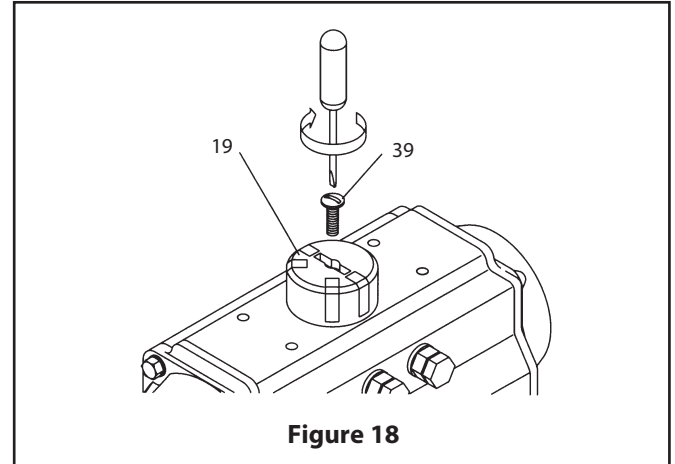
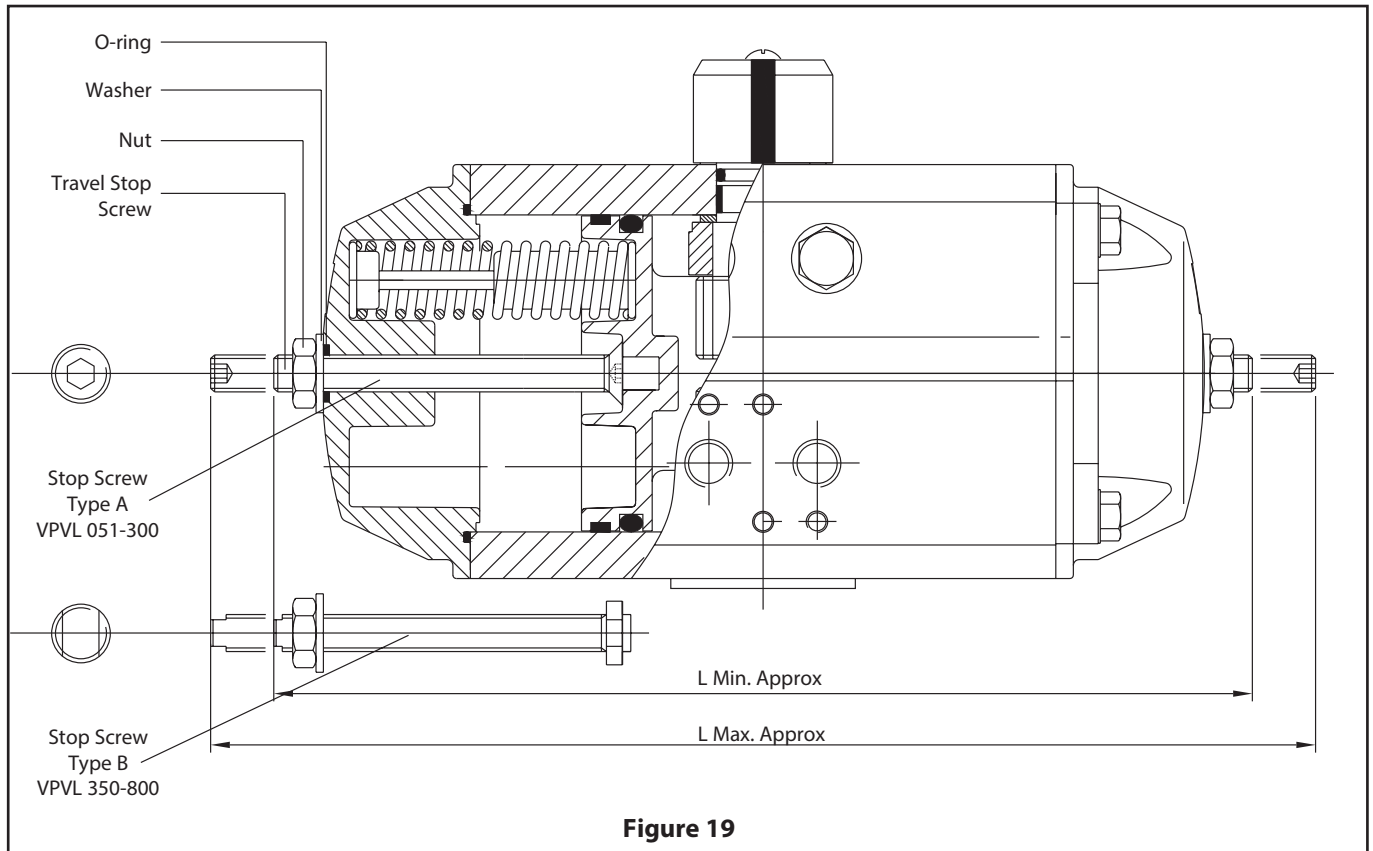

Figure 18
Figure 19
- E. If the valve is not in the correct counter-clockwise position, turn the left stop adjustment screw (2) IN to reduce actuator travel, or OUT to increase actuator travel.
- F. When the correct counter-clockwise position is obtained, hold the adjusting screw (2) stationary while tightening the lock nut (4).
6. Position Indicator (19, 39) Assembly. (Figure 18):
- A. Fit position indicator (19) on the shaft (60), verifying that it indicates the correct actuator position.
- B. Tighten cap screw (39) to secure the position indicator.
7. Setting 100% Adjustable Stop (If applicable). (Figure 19):